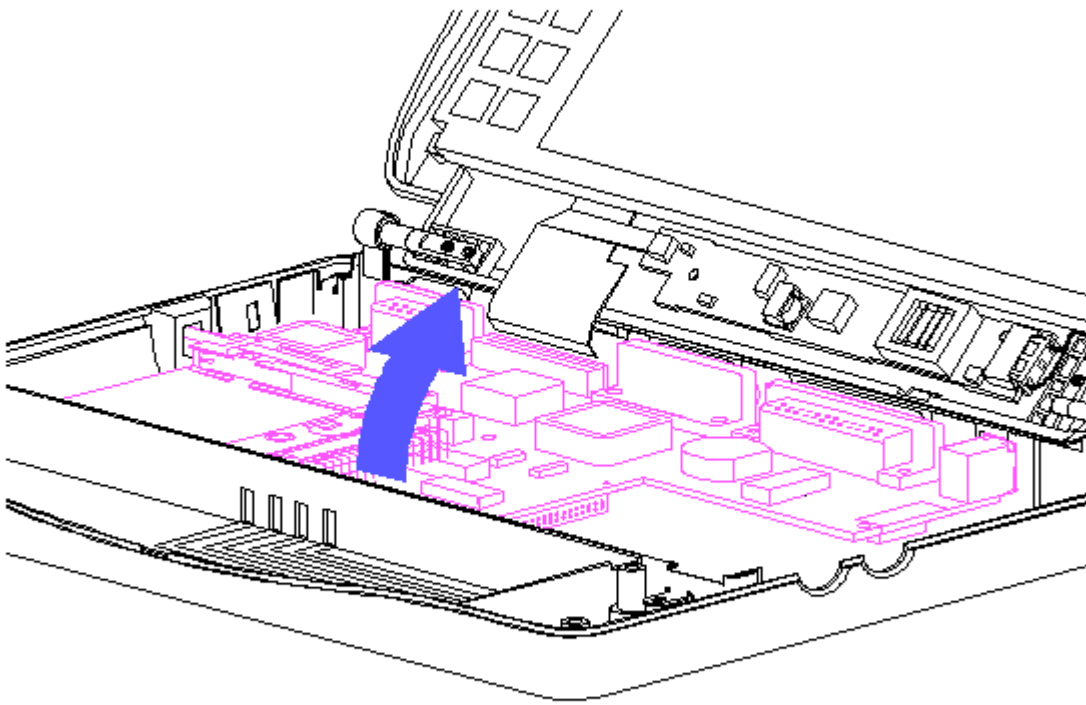

Figure 3-50. Removing the System Board
12. Rotate the system board out of the system chassis (Figure 3-50).